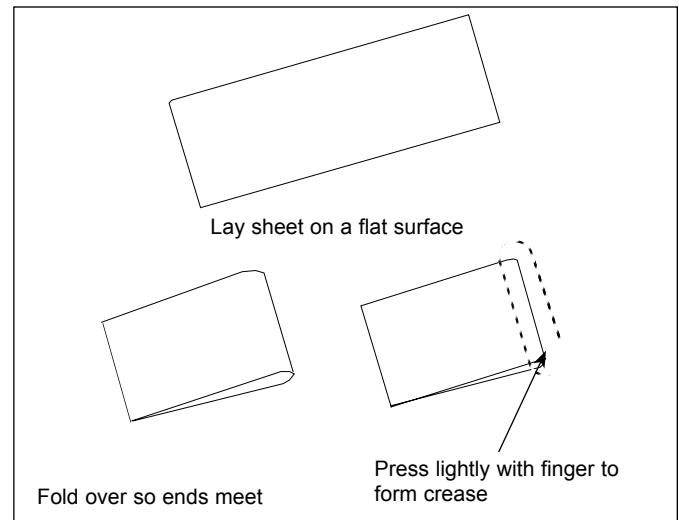

Figure 11. Folding Release Sheet
2. Remove the new Release Sheet from the plastic bag and lay it on a clean, flat surface. Fold the sheet *exactly* in half (Figure 11).
3. Crease the Release Sheet at the fold using only your finger (Figure 11).